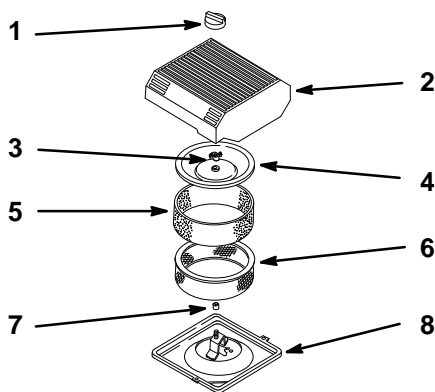

Figure 13
2. Clean around the air cleaner to prevent dirt from getting into the engine and causing damage. Unscrew the knob and remove the air cleaner cover (Fig. 13).
3. Carefully slide the foam element off the paper element (Fig. 13).
4. Unscrew the cover nut and remove the cover and paper element (Fig. 13).
1. Carefully slide the foam element onto the paper air cleaner element (Fig. 13).
2. Place the air cleaner assembly onto the air cleaner base (Fig. 13).
3. Install the air cleaner cover and secure with cover nut (Fig. 13).